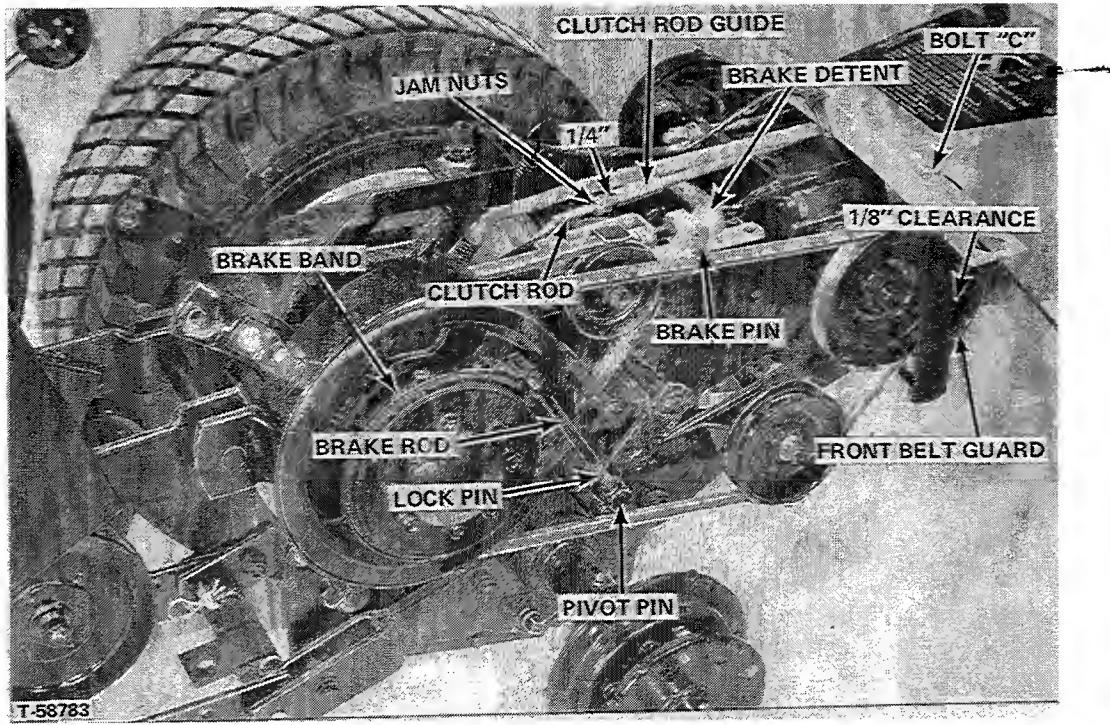

FIGURE 41
- With clutch pedal up in engaged position adjust jam nuts on clutch rod $1/4$ inch away from clutch rod guide (Figure 41).
that the belt guard does not touch the pulley or the belt at any point while clutch is fully engaged (Figure 41).
7. (Figure 41), with the shuttle clutch control lever in neutral position make sure center of notch in brake detent is centered on brake pin. If necessary loosen setscrew in detent, move it, and retighten setscrew.
10. See Figure 41. With control lever in neutral position rotate pivot pin on threads on brake rod so that when pin is reinstalled in hole in brake lever all of the slack will be taken out of brake band. Fasten pivot pin in place in brake lever with lock pin.